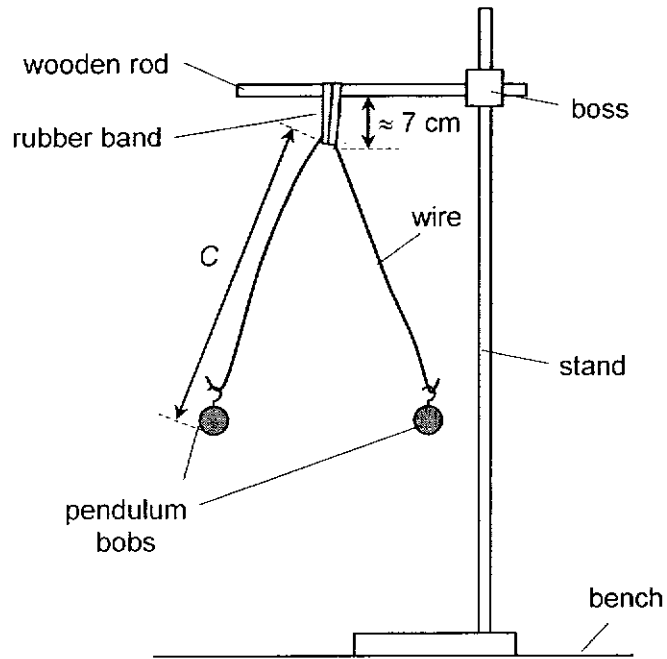

Fig. 3.2
- (c) (i) Bend the ends of the wire to form hooks for hanging pendulum bobs and set up the apparatus as shown in Fig. 3.2.